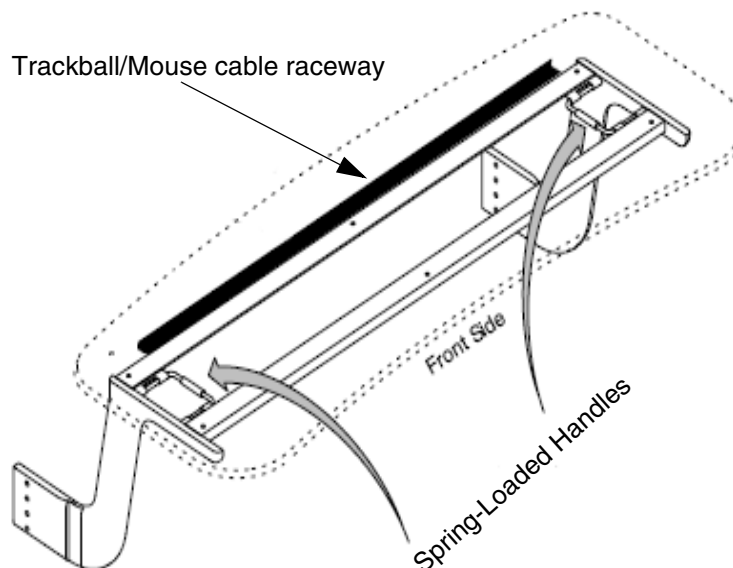

Figure 1-64 Attach the Keyboard Top
- 2.) Use the spring-loaded handles to attach the keyboard top to the support arms (see Figure 1-64).